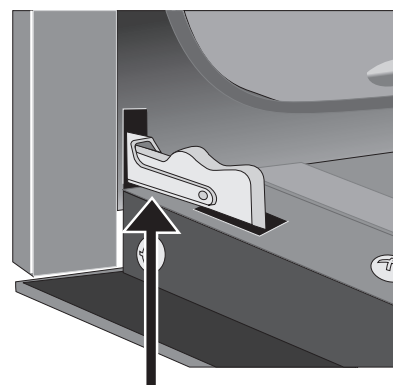
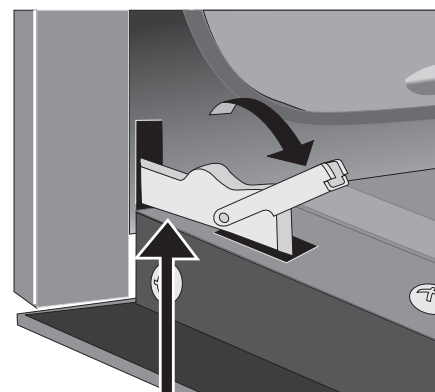

Figure 24: Door hinge locked
Figure 25: Unlocking door hinge
2. Pull up the lock located on each hinge support toward front of the oven until the lock stops. You may have to apply a little upward pressure on the lock to pull it up (Figure 24 and Figure 25).